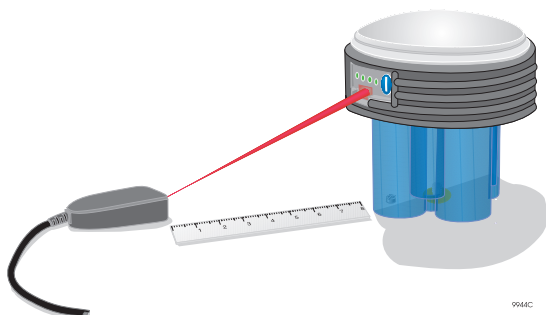

Figure 2.11: Locus Communicating via IR Device
Once Locus has successfully connected to the PC, begin downloading the data (keep in mind that several data file types are downloaded and placed on files in your computers). Place Locus within 24 inches of the IR device and position them so that the IR ports face each other. Although the IR devices can be as close as one half inch, nine inches apart is the minimum distance if both are placed flat on a table (Figure 2.11).
1. Verify that a Locus is turned on, the IR device is attached to the computer, and the IR device is close to the receiver IR port (Figure 2.11).